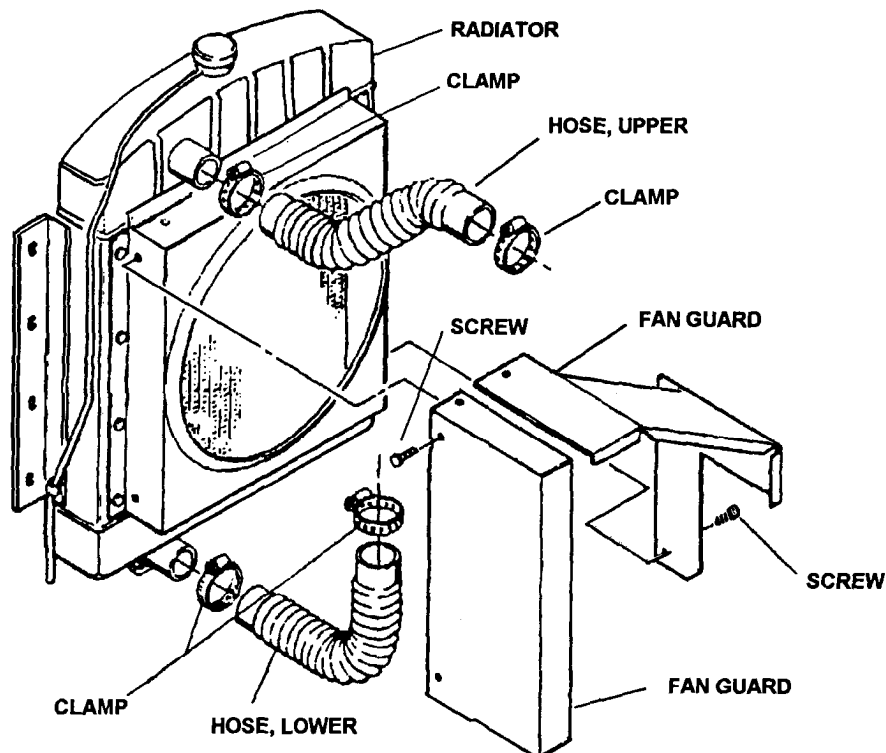

Figure 4-24. Radiator Hose Replacement
- (1) Remove screws and fan guard (Figure 4-24).
- (2) Refer to step (2) (b) in paragraph 3-27 and drain the radiator.
- (3) Loosen dampers and remove defective radiator hose (Figure 4-24).
- (4) Clean radiator and engine hose connection points.
- (5) Remove clamps from defective hose and place on replacement.